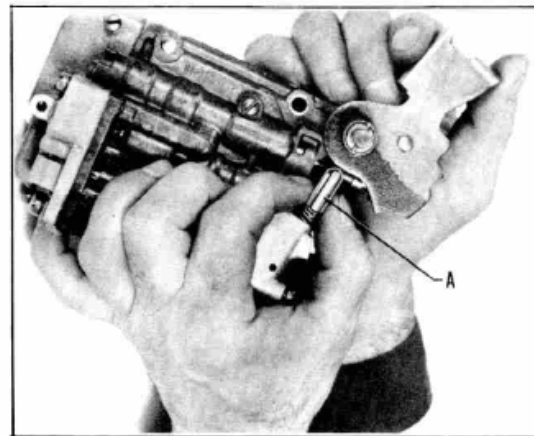

Figure 7
b) The detent plunger is of the round nose bullet-type instead of a round ball, Figure 7.
2. Move the inside detent control lever slowly counter-clockwise and remove the detent tension spring and plunger, Figure 7.